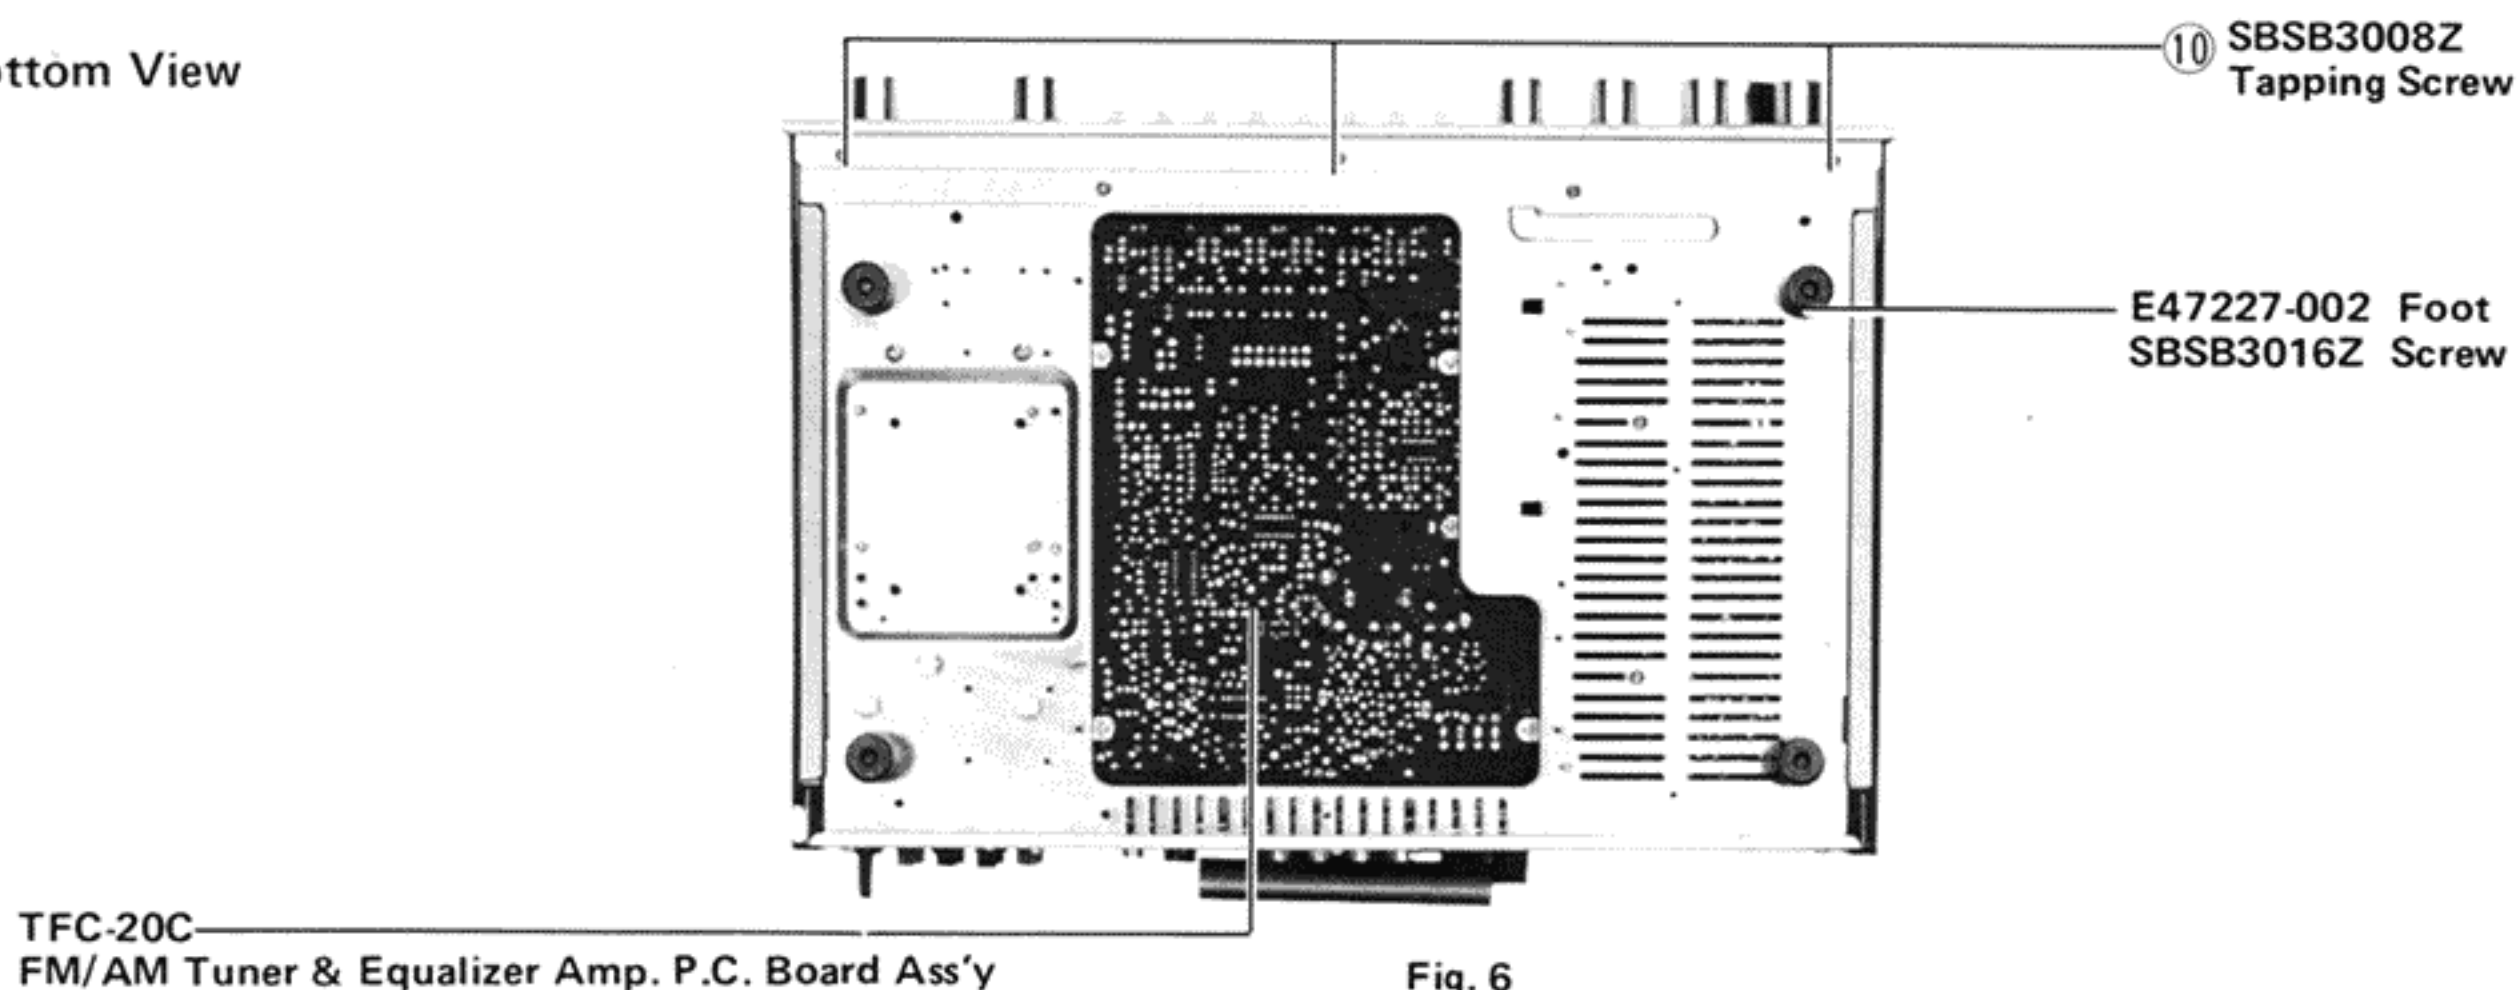

Fig. 6
3. Remove three screws item no. 10 located on the bottom of the front panel. Refer to Fig. 6.